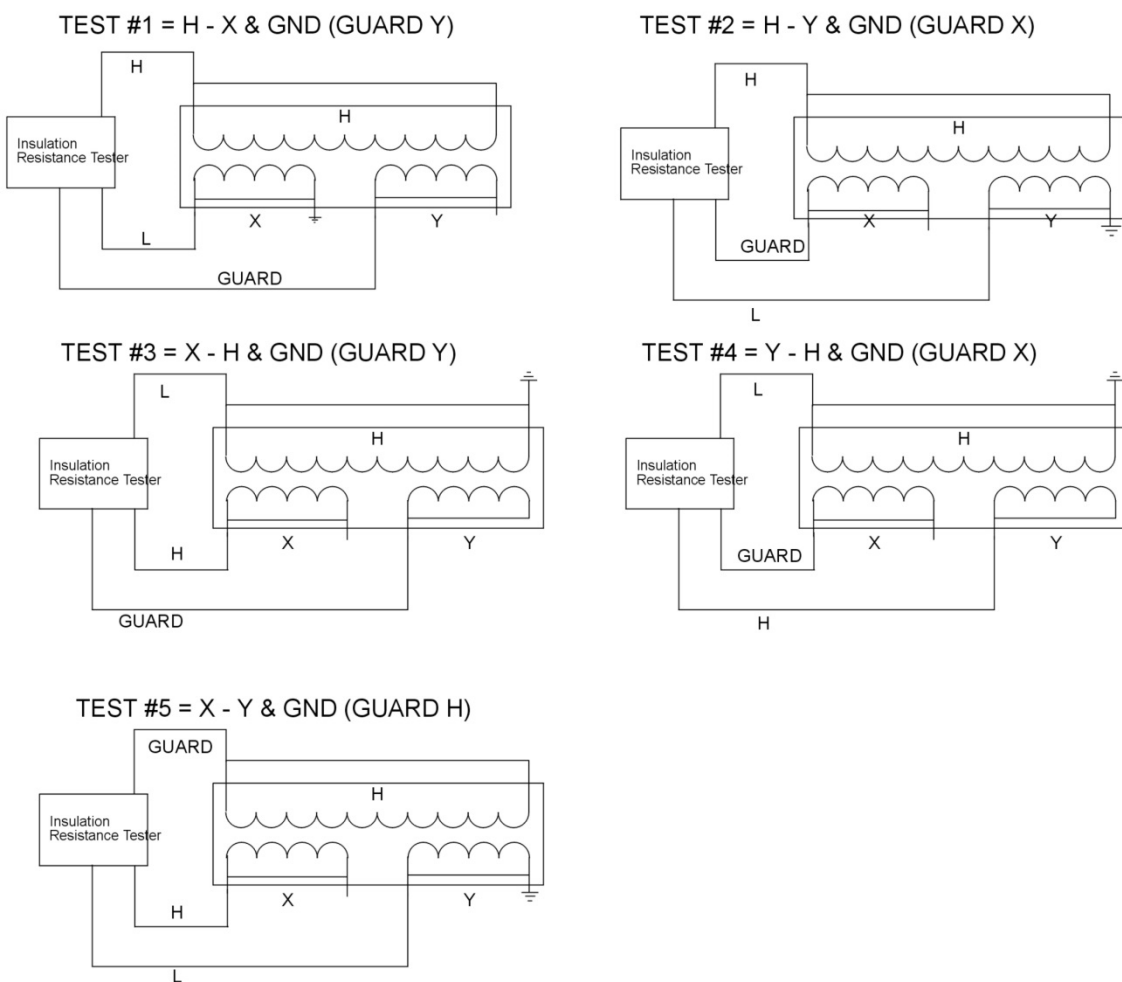

Figure 5
h. Repeat steps a. through g. exchanging primary and secondary connections to include all the following tests for 2 and 3 winding PTs. Use Figure 5 diagrams to help you visualize the connections.